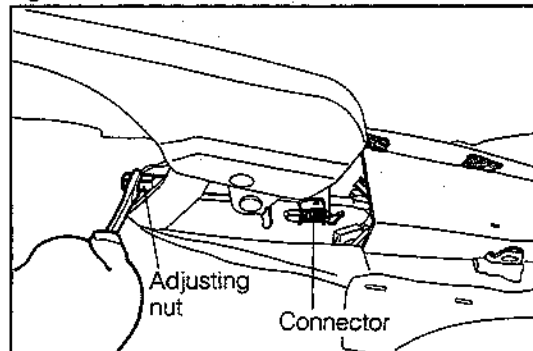

Fig. 8-181
- (1) Turn the adjusting gear clockwise, using a hexagon wrench key, until the disc brake pad is pressed against the brake disc. Then, back off the adjusting gear about 180 degrees counterclockwise.
- (2) Install the gasket and screw plug.
- (3) Perform air bleeding for the brake system. Depress the brake pedal about 40 times. (This operation makes it possible to adjust the clearance between the disc brake pad and the brake disc.)
- (4) Adjust the working travel of the parking brake lever. (See Fig. 8-181.)